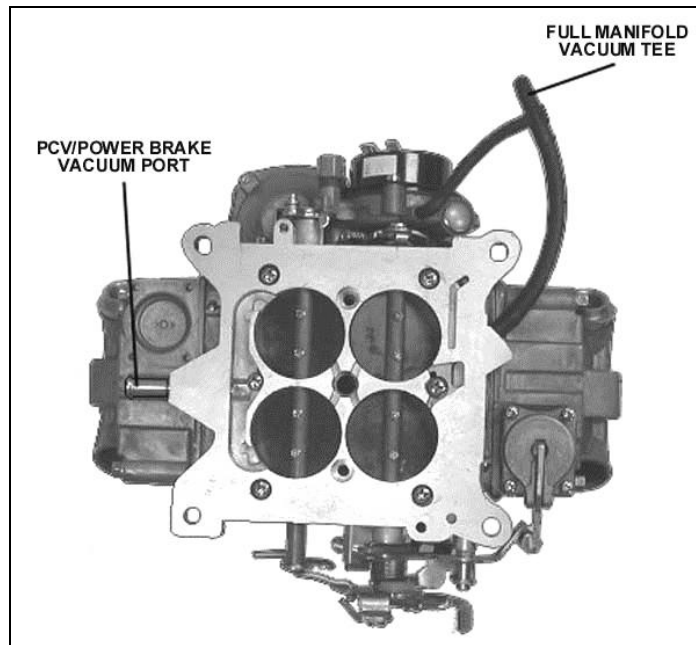

Figure 7
8. Connect the power brake and/or PCV hose to the fitting as shown in Figure 7.
1. Attach the vacuum gauge to a manifold vacuum port on the throttle body (Figure 7).